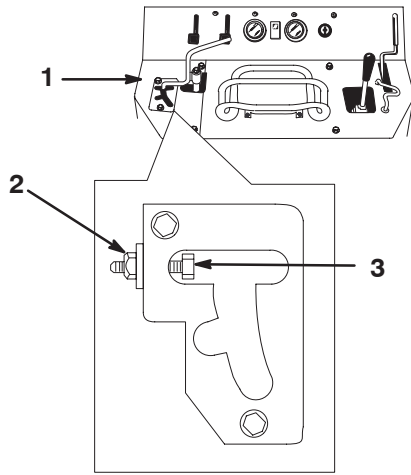

Figure 28
- Remove the three bolts securing the left control panel cover and remove the cover (Fig. 28).
- Loosen the jam nut on the adjustment bolt (Fig. 28).